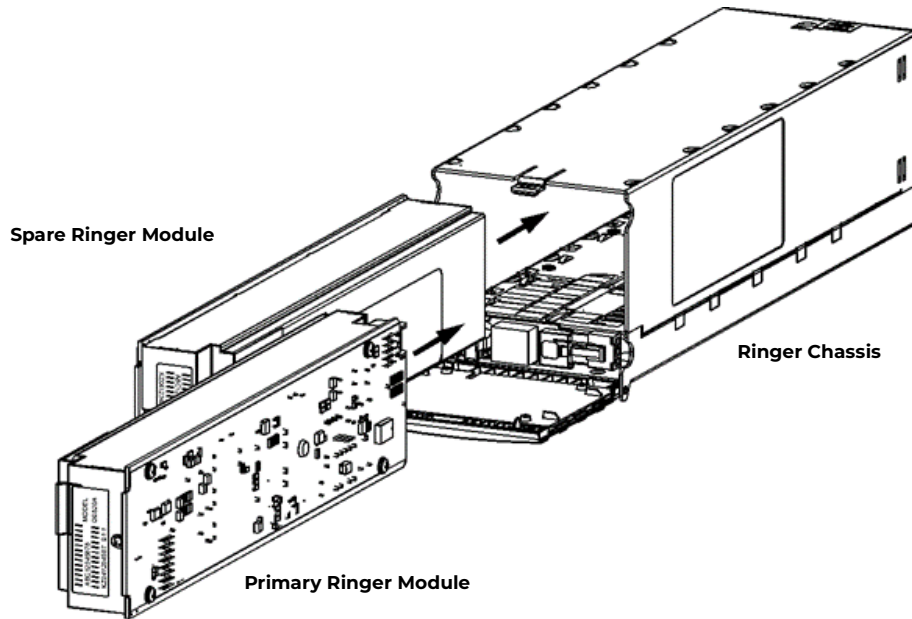

Figure 5-17: Ringer Installation
5.	Locate connector on rear of ringer module and the mating connector on the insiderear of the ringer chassis. Align the ringer module connector with the ringer chassis connector. Place the ringer module in the guides and slide the ringer in until it fully engages with the connector at the back of the ringer chassis. Note: The Ringer modules install facing opposite directions. See figure 5-17.